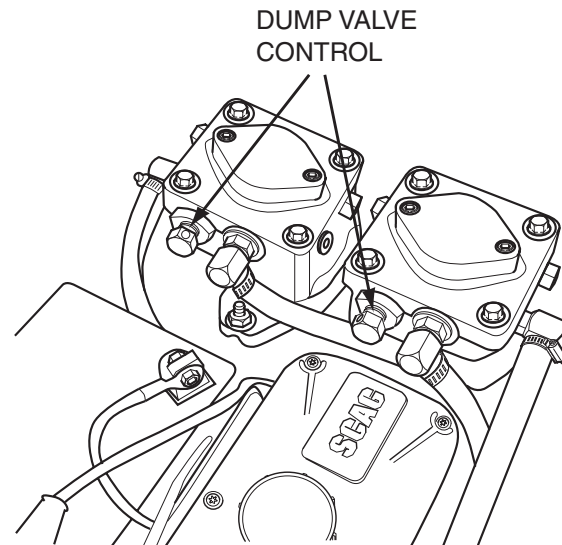

Figure 4-2 Dump Valve Control
11. **Dump Valve Control (Figure 4-2).** Located on the hydraulic pumps, used to "free-wheel" the mower. Rotating the levers clockwise until they stop allows the unit to move under hydraulic power. The levers must be in this position and torqued to 10ft/lbs during operation of the mower. Rotating the levers counter-clockwise, 1-2 turns, allows the mower to be moved by hand (free-wheeling).
To “free-wheel” or move the mower around without the engine running, place the dump valve levers in the FREE-WHEEL position (Figure 4-2, page 14). Disengage the parking brake and move the mower by hand. The dump valve levers must be returned to the DRIVE position and torqued to 7-10 ft/lbs to drive the mower.